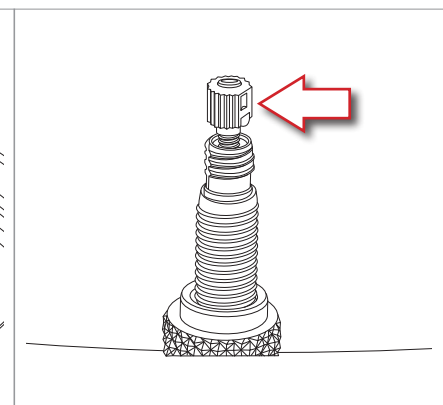

Fig.16
- Check the valve is fully open (Fig.16).